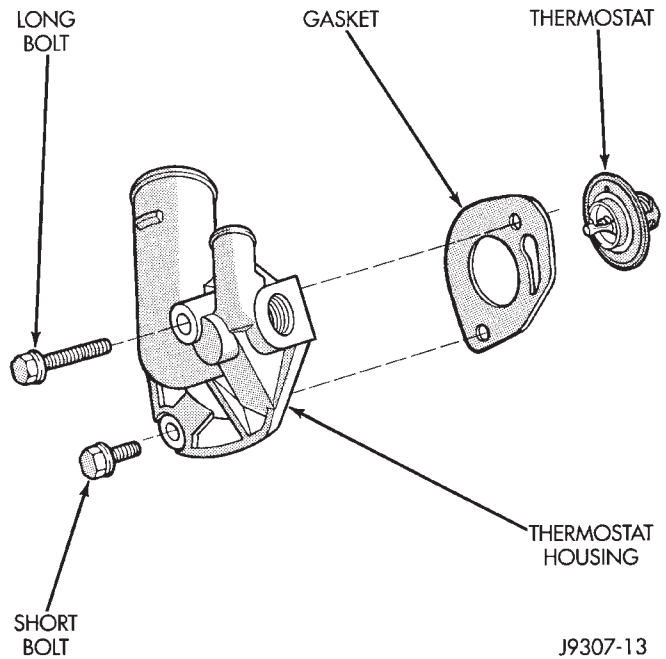

Fig. 36 Thermostat Removal/Installation—4.0L Engine
- (2) Remove radiator upper hose and heater hose at thermostat housing.
- (3) Disconnect wiring connector at engine coolant temperature sensor.
- (4) Remove thermostat housing mounting bolts, thermostat housing, gasket and thermostat (Fig. 36). Discard old gasket.
- (5) Clean the gasket mating surfaces.